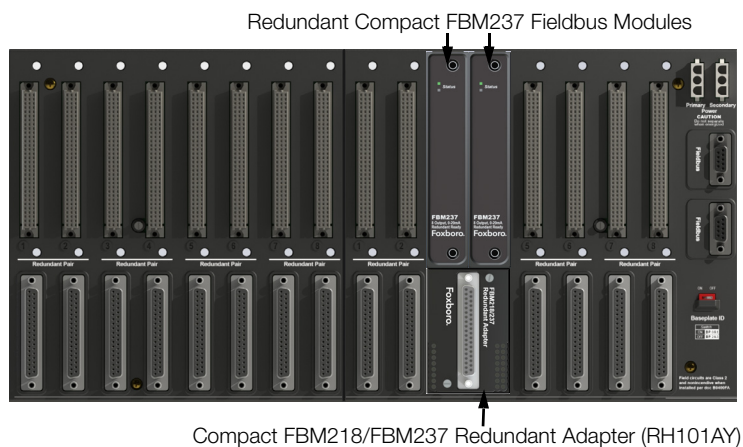

Figure 1. Compact FBM237 Redundant Module Configuration
When used as a redundant pair, the modules combine to provide redundancy at the FBM level, with field output signals wired to one common termination assembly (see Figure 1). Each module in the pair independently attempts to hold the output(s) at its specified output value(s).
Redundant modules must be located in adjacent positions on the baseplate, with the first module located in an odd-numbered position (for example, the positions labelled "3" and "4"). To achieve redundancy, a redundant adapter module is placed on the two adjacent baseplate termination cable connectors to provide termination for a single cable (see Figure 1). A single termination cable connects from the redundant adapter to the associated termination assembly (TA).